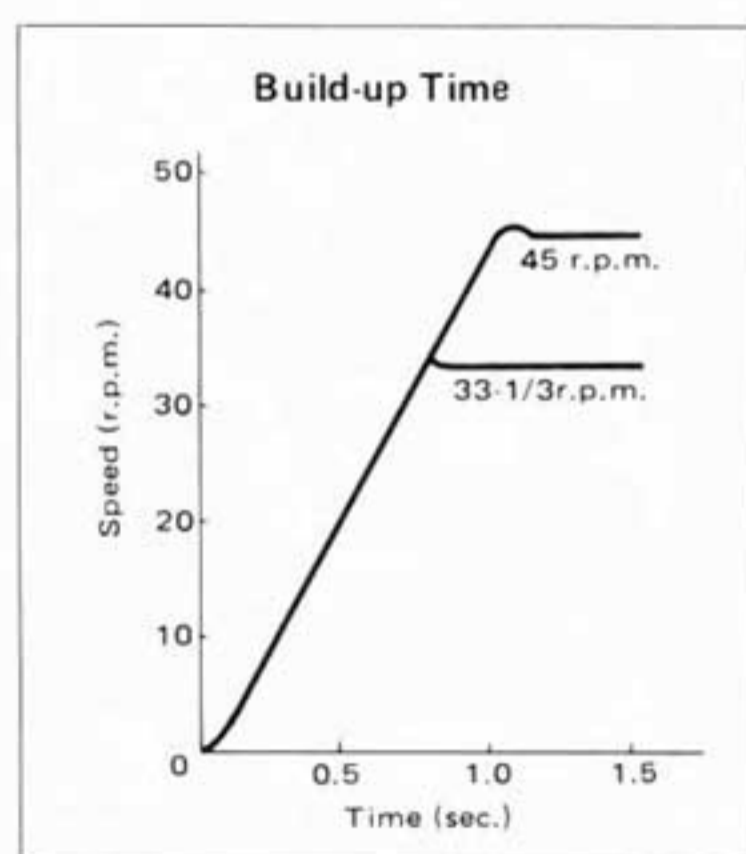

Fig. 1
**High torque motor delivering 1.5kg·cm makes it possible to reach 33-1/3 r.p.m. from standstill within 0.7 sec. (1/4 rotation) and to effect instantaneous speed change. (Fig. 1).**